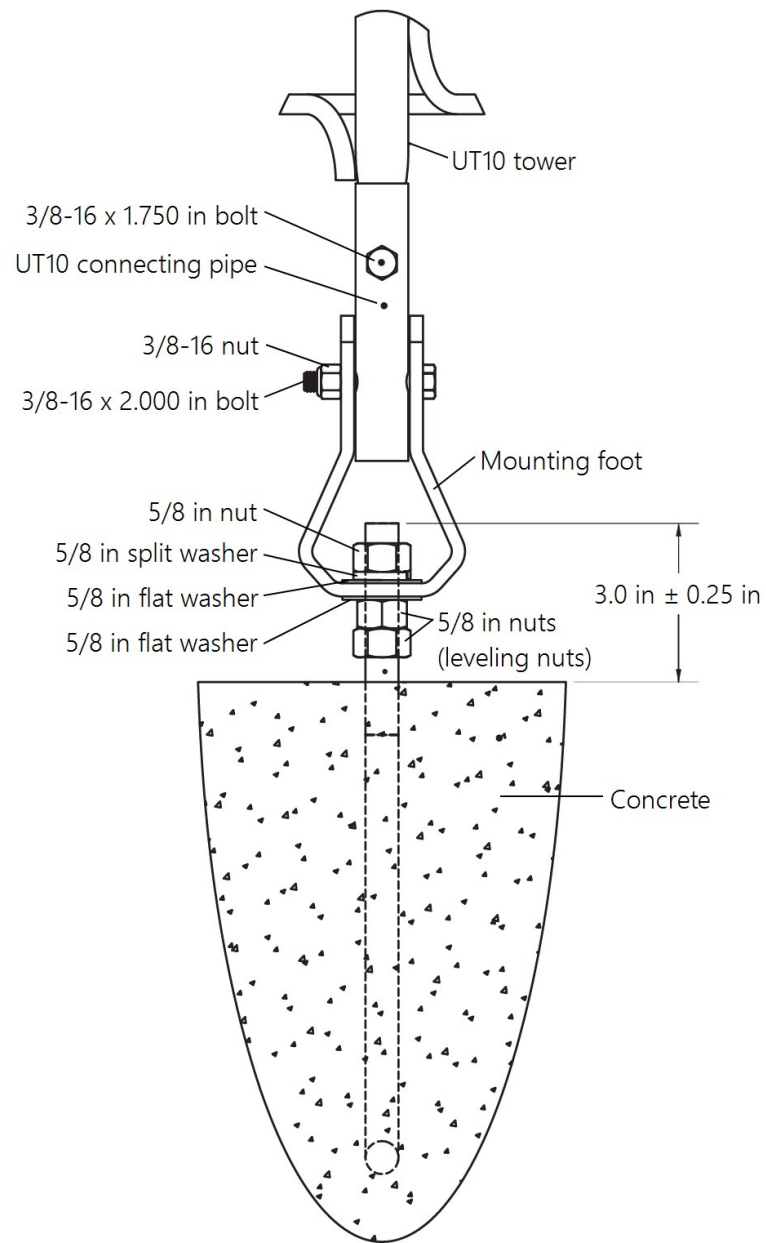

FIGURE 7-8. Tower mounting foot detail view
5. Place a 5/8-inch flat washer, a 5/8-inch split washer, and a 5/8-inch nut on each J-bolt. Do not tighten the nut (FIGURE 7-8 (p. 16)).